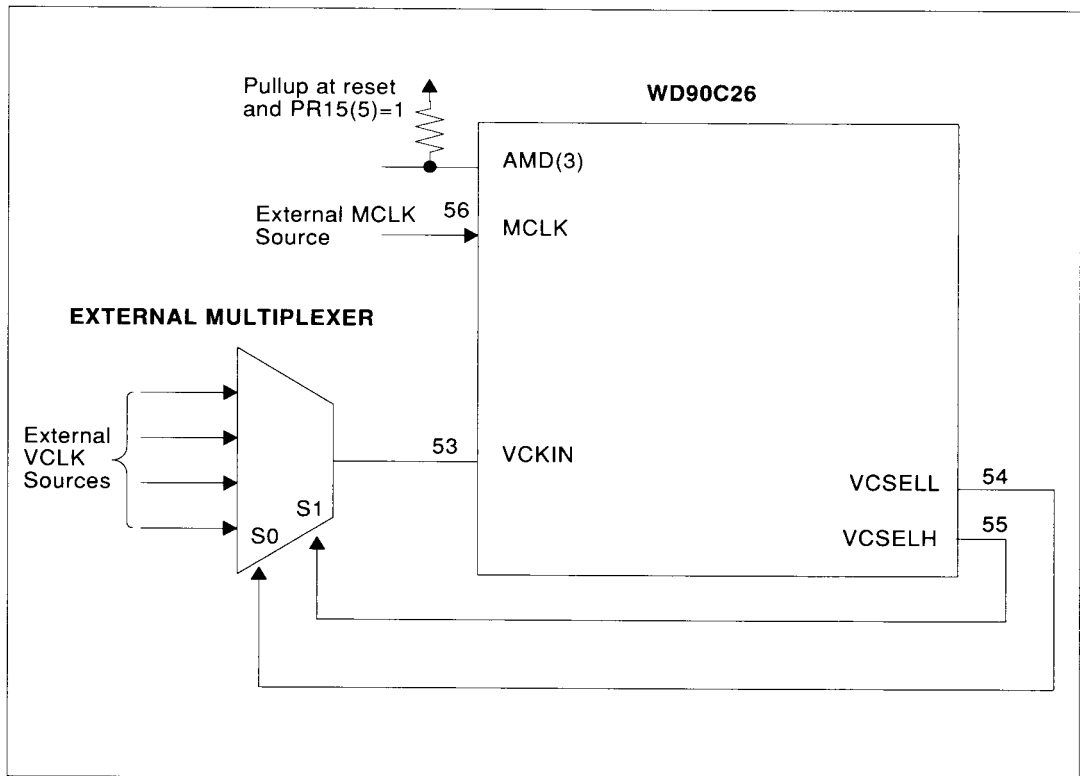

FIGURE 6-16 USING A WD90C26 WITH AN EXTERNAL CLOCK MULTIPLEXER
- Using a WD90C26 with an External Clock Multiplexer (see Figure 6-16).